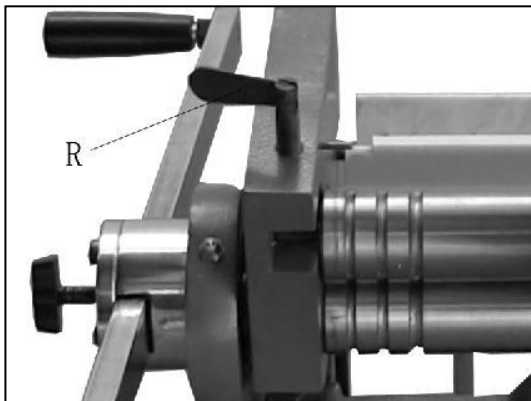

Figure 12
1. Loosen bolt (R, Figure 12)
4. Re-install upper roll, and tighten bolt (R, Figure 12).